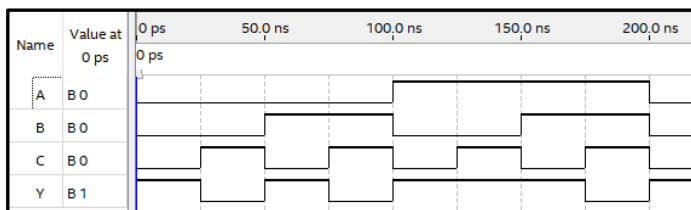

Figure 10: Output of Functional Simulation
0. **Unfortunately, Quartus Prime Lite 18.1 does not support timing simulations for the MAX 10 devices that we will be using this semester. This may change in the future versions of Quartus Prime Lite. Because of this, you can only perform functional simulations for the MAX 10. But Quartus Prime Lite does support timing simulations for all of the MAX V parts. Therefore, you can and should perform the timing simulation below using any MAX V part in items 5-7 below.**
2. Zoom in on the window. You should see something similar to Figure 10.